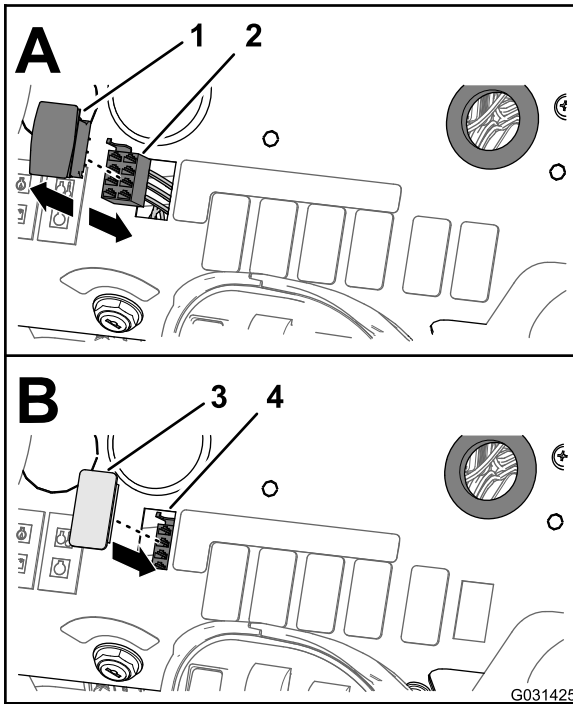

Figure 43
1. From under the dash panel of the machine, squeeze the lock tabs of the rate-control switch together and push up the rate-control switch out of the dash panel (Figure 43).
2. Disconnect the 8-socket connector of the front harness of the machine (labeled RATE SWITCH) from the 8-pin connector of the switch (Figure 43).
4. Align the switch plug to the opening in the dash panel where you removed the rate switch (Figure 43).
5. Insert the switch plug into the dash panel until the plug snaps into the panel securely (Figure 43).